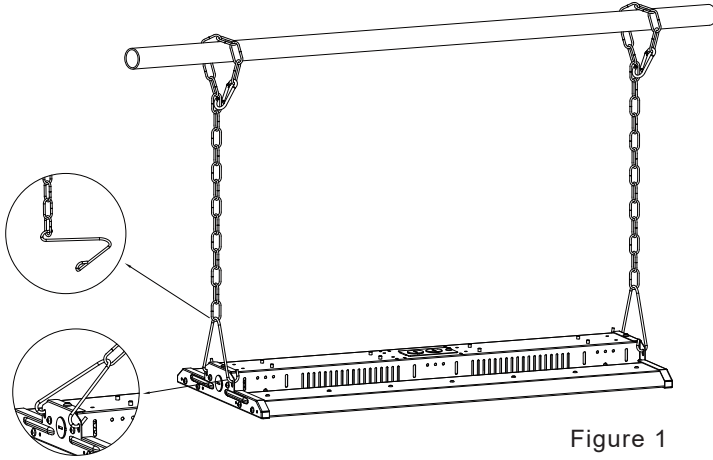

Figure 1
1. Connect the chain (Figure 1).
2. Connect the chain to the fixture (Figure 1).
3. Connect the chain onto the rail, adjust the chain length as need (Figure 1).